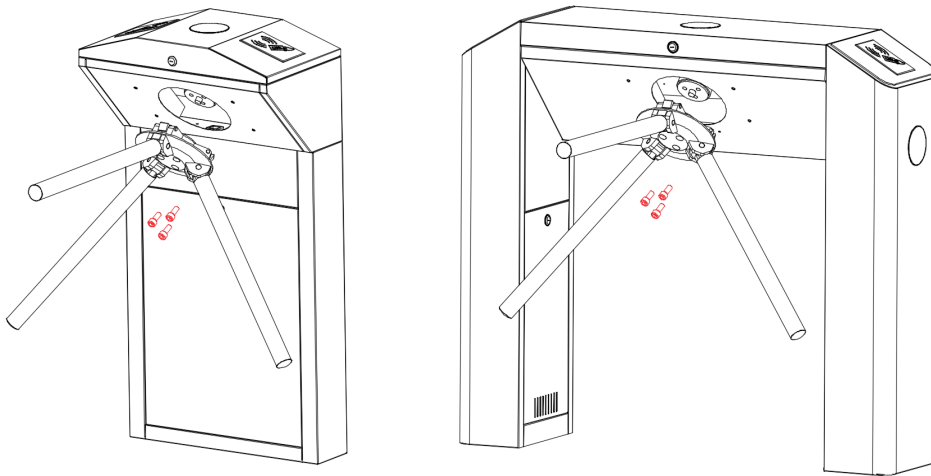

Figure 2-1
1. Put the arm into the hole of cabinet; make sure the screw holes match with mechanism core, then tighten 3 hex screws, as shown in Figure 2-1.